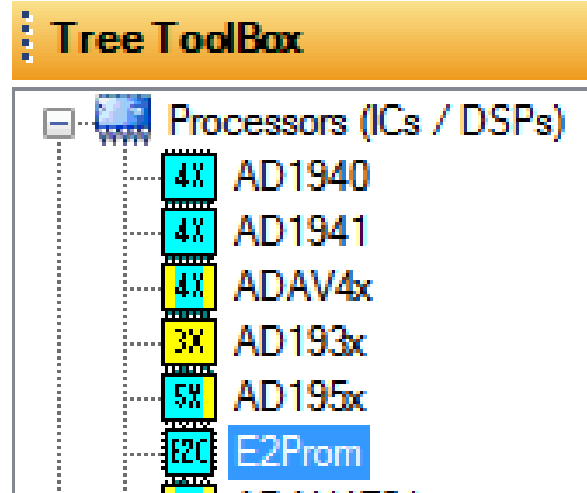

Figure 72. E2Prom IC Selection in SigmaStudio
1. Add an E2Prom block to the project space of the **Hardware Configuration** tab. From the **Processors (ICs/DSPs)** folder, click **E2Prom** (see Figure 72) and drag it into the project space to the right of the toolbox.